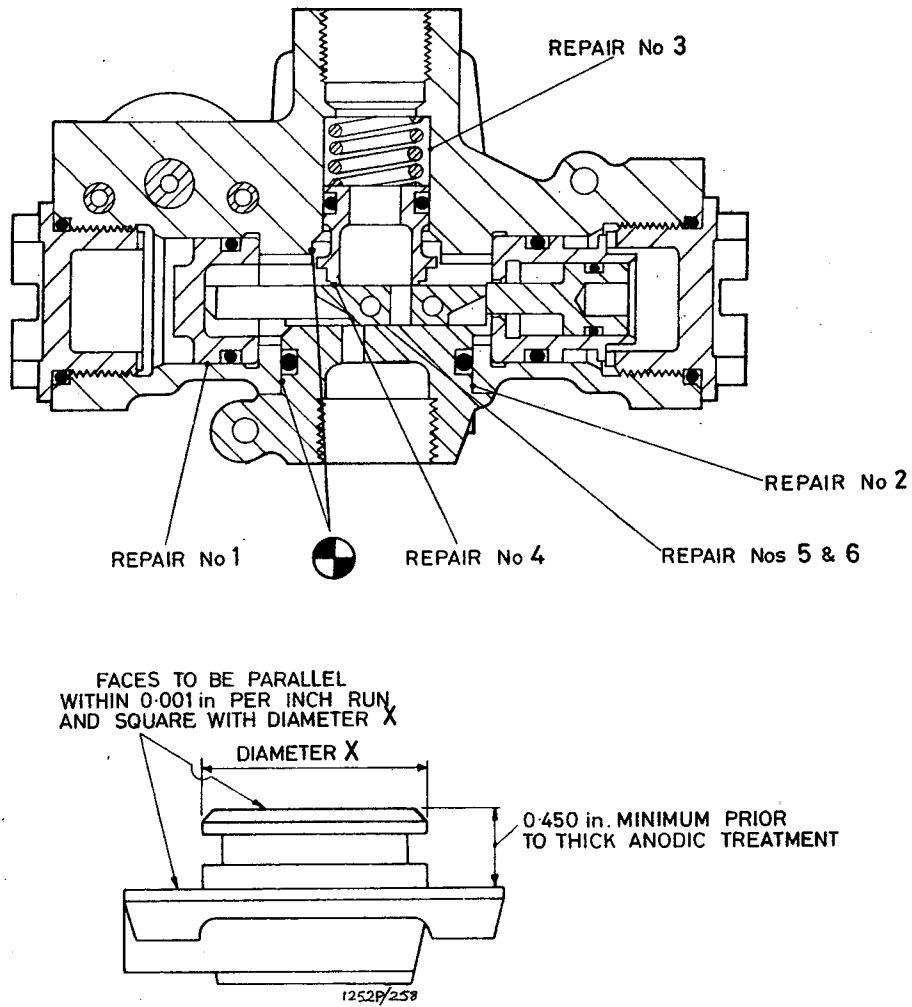

Fig. 2 Repair - locations
Repair to valve body (fig.2)
Repair to slide and thimble (fig.2)
Repair to connection block (fig.2)
REPAIR No.6Repair to connection block (fig.2)Repair procedure
(1) Grind back metal removing 0.004 in. within the dimension quoted on fig.2.
(2) A flat surface with a finish of 4 micro-inches C.L.A. max. must be achieved.
(3) Hard anodise and finally lap in accordance with PS104, achieving a final surface finish of 4 micro-inches C.L.A. max.